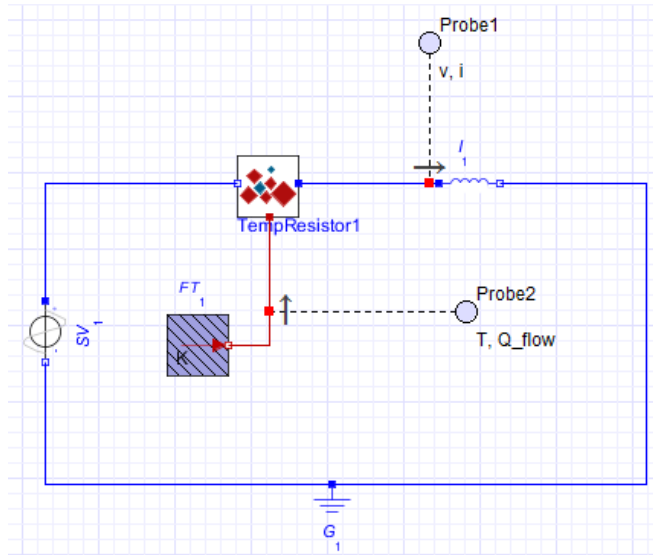

Figure 6.4: Temperature Dependent Resistor
18. Create the model shown in **Figure 6.4** with the components and settings specified in **Table 6.1**.